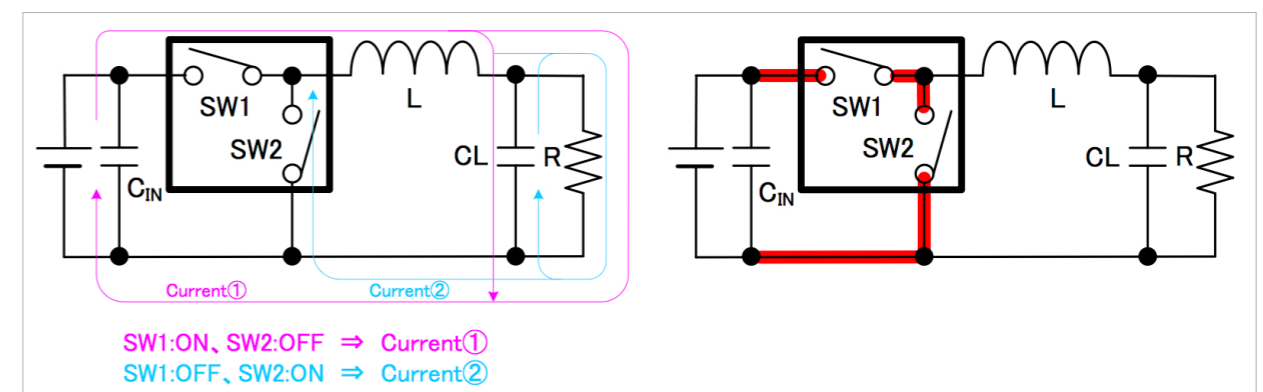

Figure 5 (L): Current Path of Step-Down DC/DC Converter and Figure 6 (R): Step-Down DC/DC Converter Noise
in some cases the actual layout on the printed circuit board is very difficult. It is not a matter of simply making connections, because if the connection positions and board layout are bad, the performance of the entire system will be degraded. For example, a step-down DC/DC converter alternately switches switch 1 (SW1) and switch 2 (SW2) ON/OFF, controlling the currents in order to stabilize the output voltage. The currents that flow when this is done are Current (1) and Current (2) (refer to Figure 5).